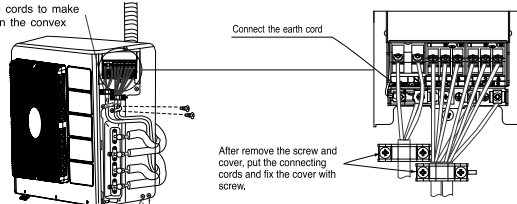

Fig. 1-3
- (2) Connect the connecting cord and power cord to the terminal board, (Fig. 1-3)
- (3) Fix the connecting cords and power cord with steel band certainly, (Fig. 1-3)